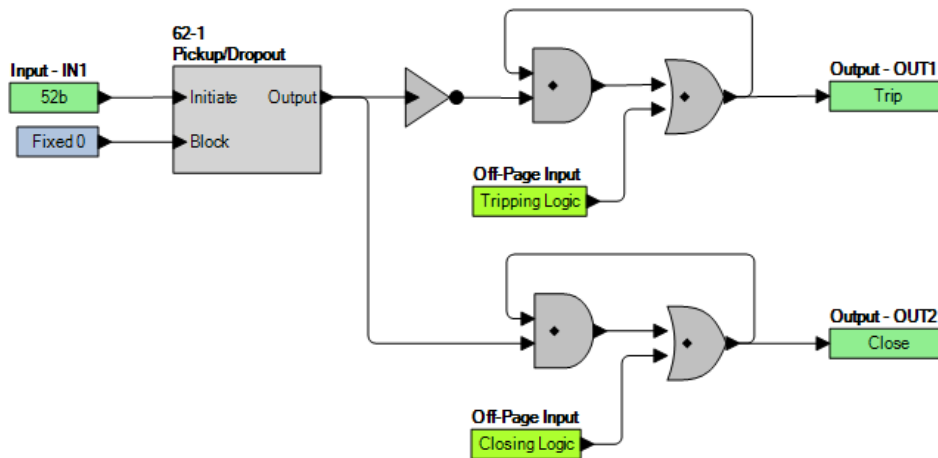

Figure 4-7. Contact Output Seal-In Logic Diagram
To prevent the output relay contacts from opening prematurely, a hold timer (200 to 2,000 ms) can be set with *BESTCOMSPPlus*. If the protection engineer desires seal-in logic with feedback from the breaker position logic, he/she can provide this logic by modifying the logic for the tripping output. To do this, use one of the general purpose timers (62) and set it for Pickup/Dropout mode. Set the timer logic so that it is initiated by the breaker position input and set the timer for two cycles pickup and two cycles dropout. The same can be done for the closing output. Figure 4-7 provides a seal-in logic diagram.